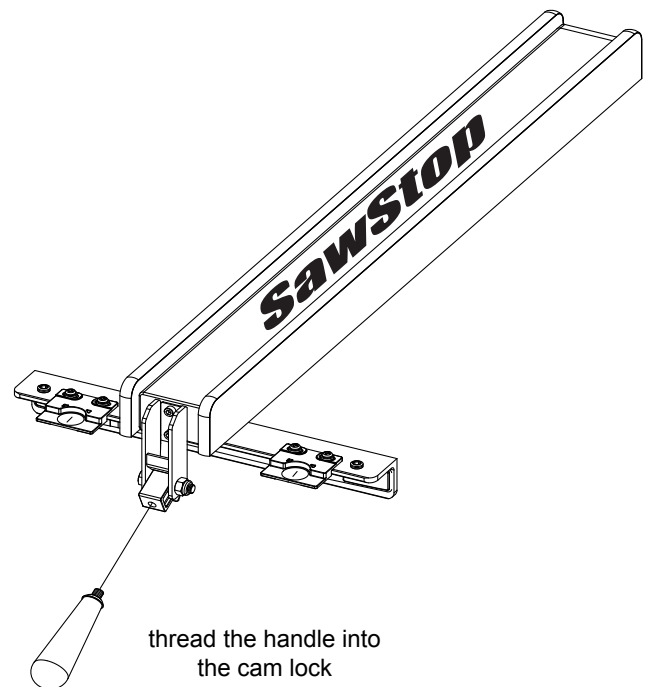

Fig. 18
18. Locate the fence and the red fence handle. Thread the handle into the cam lock on the front of the fence (see Fig. 18).